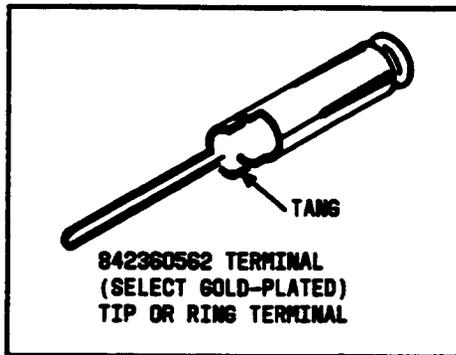

Figure 11. Tip or Ring Terminal
- 3.16** After the unit is secured, the side plastic cover is removed by removing the screw on the right side. The terminals should be exposed once the cover is removed. (See Figures 11 and 12.)
4.07 To remove the 842360562 tip or ring terminal (Figure 11), proceed as follows.